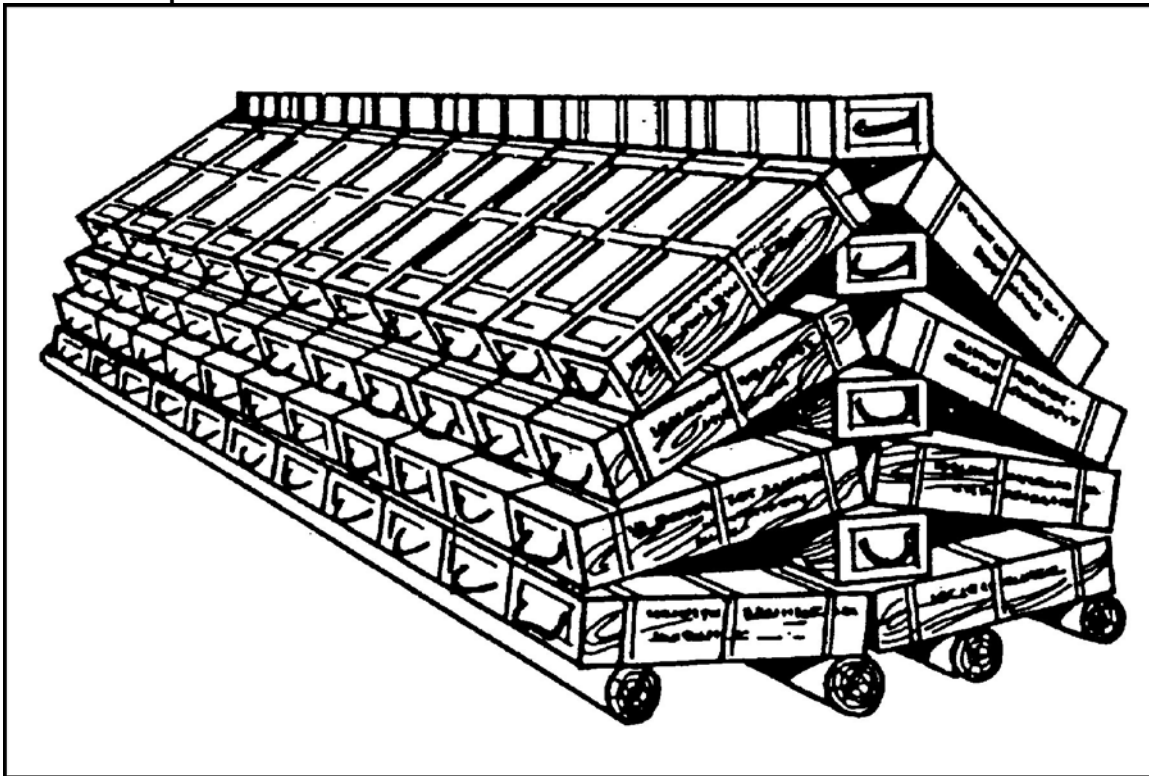

Figure 1. Temporary field stacking and storage.
- a. The recommended method for temporary field stacking and storage of boxed HE and illumination ammunition is shown in Figure 1. This method of stacking provides some ventilation that permits open, uncovered storage of ammunition for several months without extensive deterioration of boxes or ammunition.